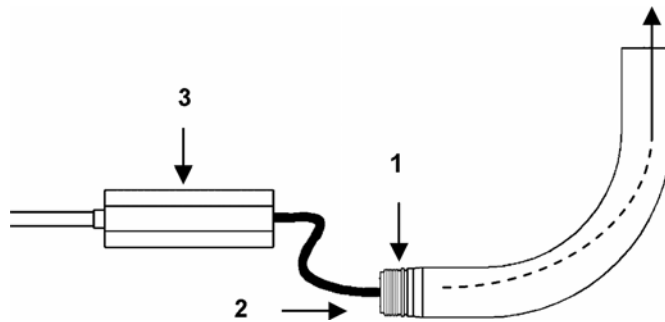

Figure 11
Step 6) Install new o-rings (1) and push the sensor cable (2) up through the ell. Install and tighten the bearing assembly (3). (Figure 11)